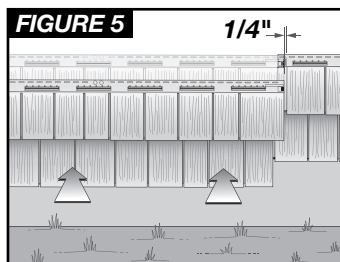

FIGURE 5
- 4) Install the next panel by positioning it below the starter strip and next to the first panel. Push in and up to lock the panel into the starter strip and the side tabs of the first panel, as shown in figure 5. Space the second panel according to the panel temperature at the corresponding temperature indicator lines (figure 1).